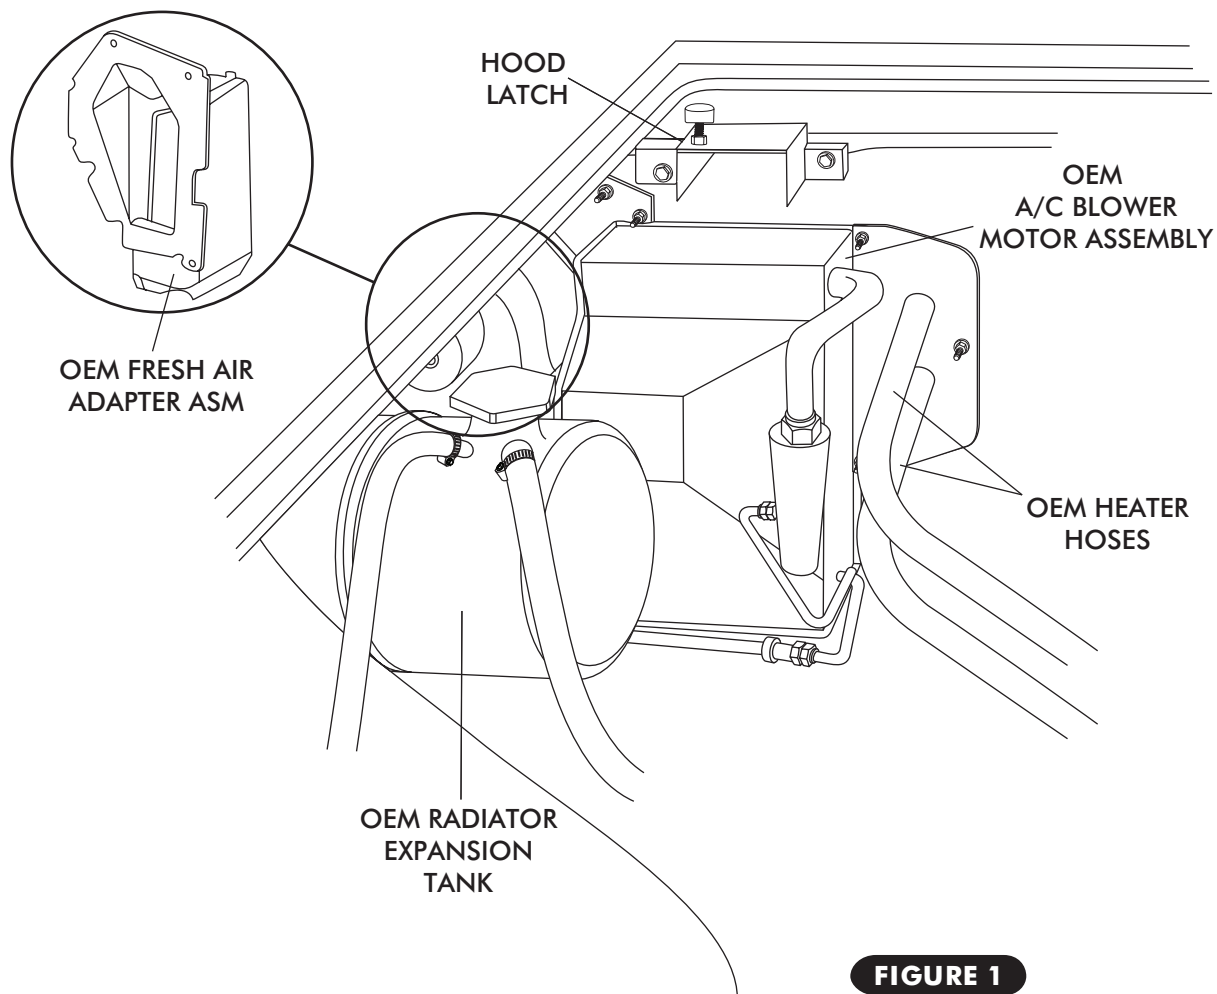

FIGURE 1
- ☐ OEM CONDENSER AND DRIER (DISCARD) SEE FIGURE 1
- ☐ OEM HEATER HOSES, A/C HOSES, AND HARDLINES (DISCARD). SEE FIGURE 1.